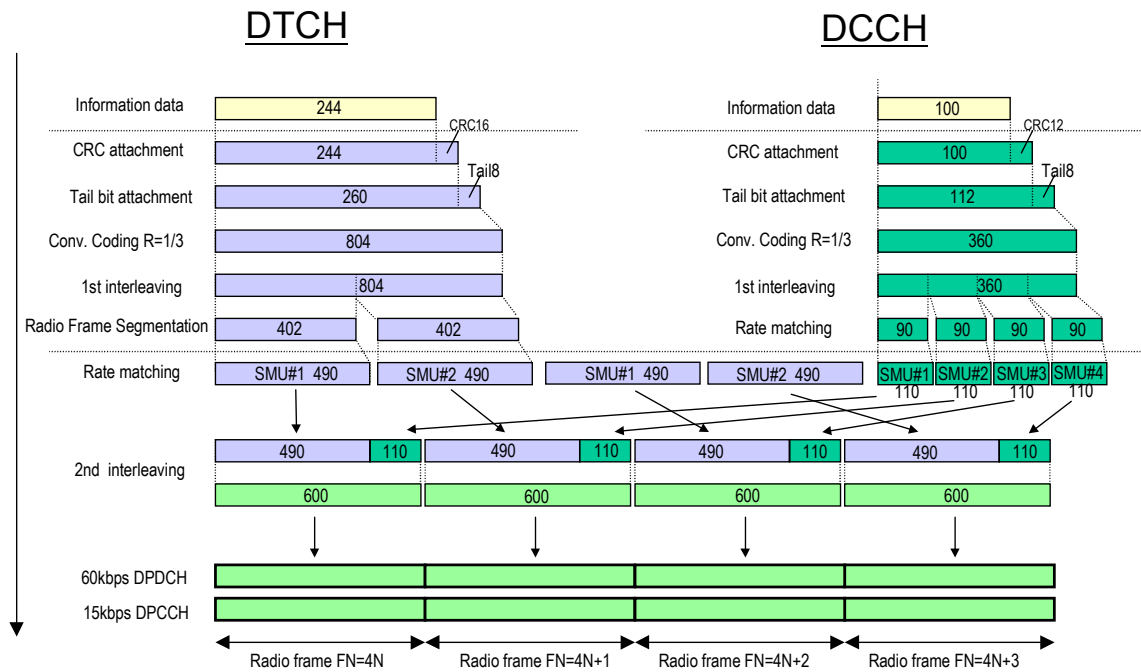

Fig. 4-33 Channel coding of UL reference measurement channel (12.2 kbps)
**Channel Settings 3GPP Reference Channel** The *3GPP Reference Channel* section configures the generated 3GPP UL reference channel. According to 3GPP TS 25.141, the data content of the *3GPP UL Reference Channel* is defined on transport channel level. The data sequence to be transferred is directly fed into the Dedicated Traffic Channel (DTCH) and Dedicated Control Channel (DCCH). The transport channels are channel coded, multiplexed and mapped onto a Dedicated Physical Channel (DPCH) with variable data rate; see Fig. 4-33 below.